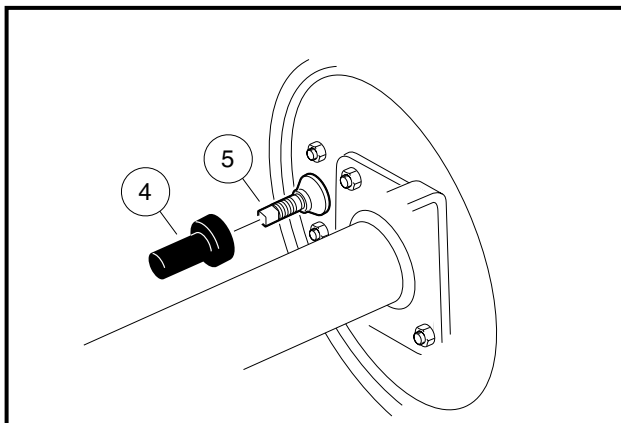
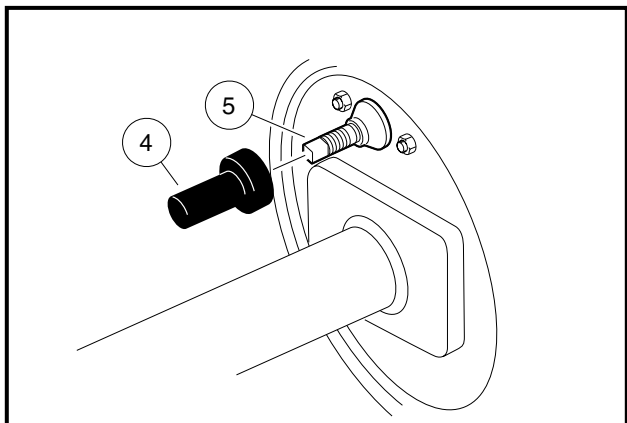

Figure 6-27 Front Brake Adjustment Bolt
Figure 6-28 Rear Brake Adjustment Bolt
3. Remove the dust cover (4) on the left and right rear brake cluster assemblies (**Figure 6-28, Page 6-14**).
3. Install the rubber dust covers (4) over the brake adjustment bolts (5) (**Figure 6-27, Page 6-14 and Figure 6-28, Page 6-14**).